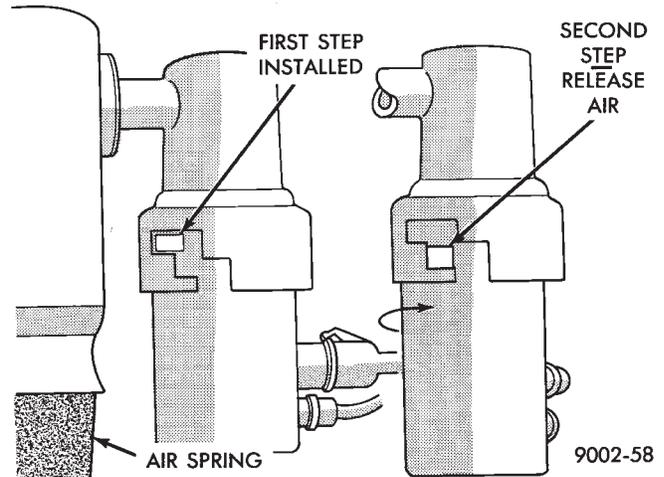

Fig. 15 Release Air Pressure
- (4) Rotate solenoid to first step in housing and allow air pressure to vent (Fig. 15).